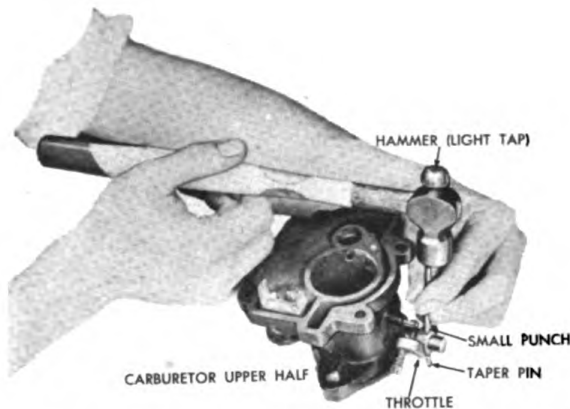

Figure 259. Removing Throttle Stop Tapered Pin.
4. Remove the two taper pins in the throttle stop lever and bushing on opposite end of shaft using a small punch and hammer. Figure 259.